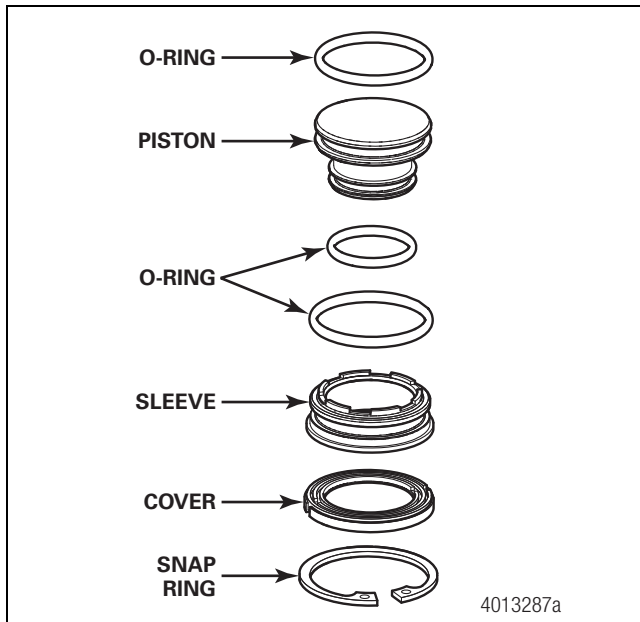

Figure 2.7
1. Remove the snap ring. Figure 2.7.